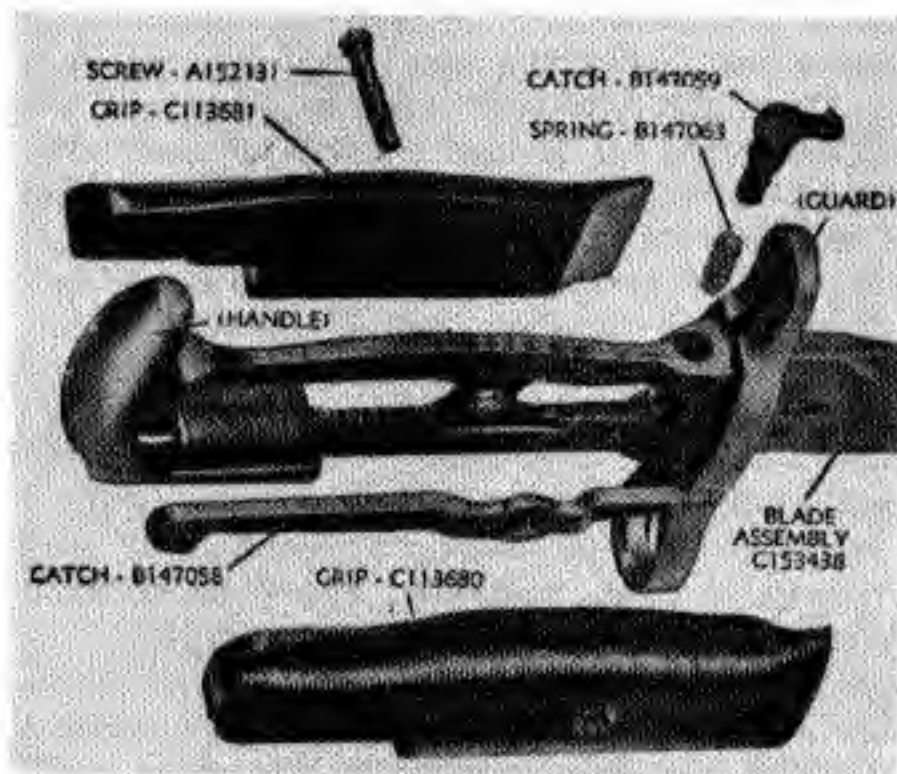

Fig. 163. M1 bayonet disassembled.
93. Bayonets should be thoroughly inspected for burs, broken or worn parts, and functioning. Fig. 163 shows the M1 bayonet disassembled. The M5 and M5-1 bayonets differ internally from the M1, but the following same points should be checked on all: